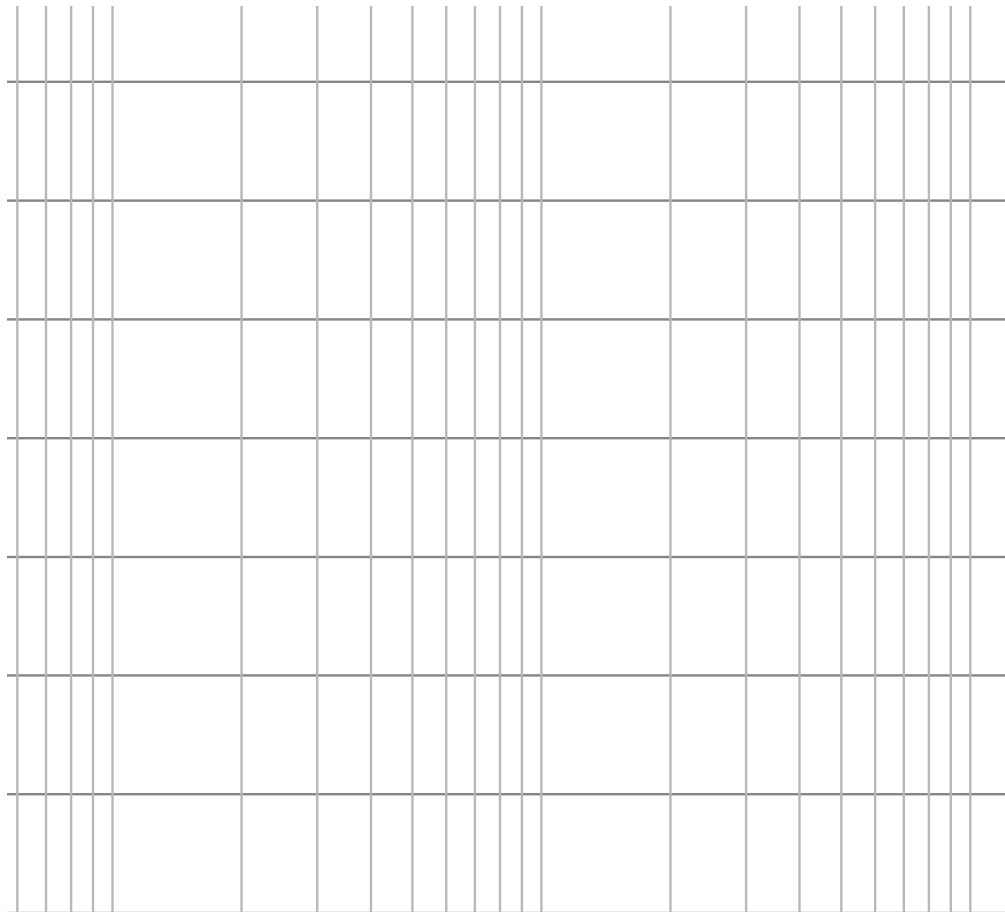

**Figure 3: Semi-log plot for the drawdown curve with the Cooper-Jacob method.**
- a) Table 1 gives the drawdown for Piezometer P2 as a function of time elapsed since the beginning of pumping. Piezometer P2 is located 10 m away from the pumping well. Using the Cooper-Jacob method, calculate the transmissivity ( $T$ ) and the storativity ( $S$ ) of the confined aquifer. You can use the semi-log plot in Figure 3 to plot the drawdown curve (12 points).